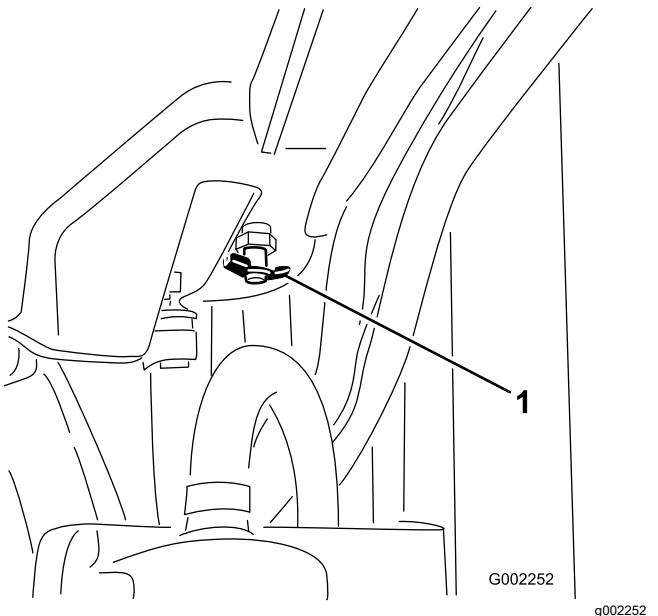

Figure 99
4. Open the drain valve and drain the coolant into the pan (Figure 99).
5. Close the drain valve (Figure 99).